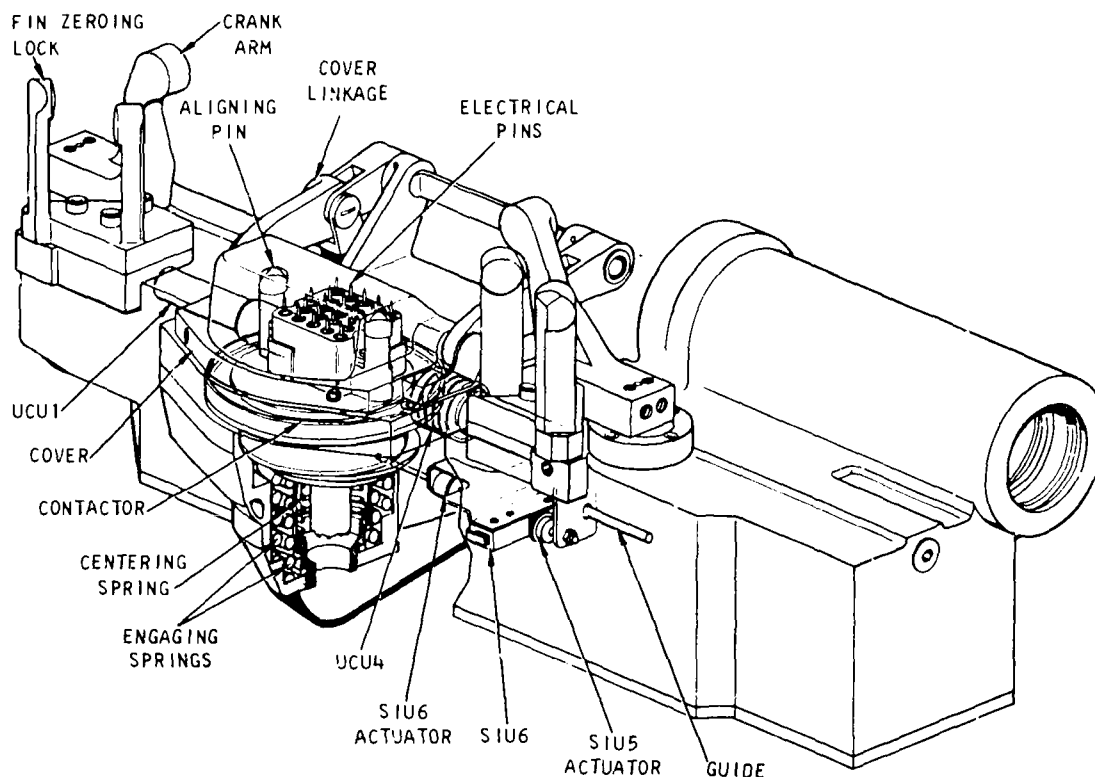

Figure 4-6.—Fin opener and contactor, Mk 13 launching system (Tartar).
9. Aft motion latch extends. When the loaded hoist completes its raise cycle, the launcher aft motion latch extends to secure the missile on the guide arm. The warmup contactor on the launcher engages the missile (fig. 4-6) and warmup power is applied for a minimum of 1.8 seconds. The fin openers engage the fins for